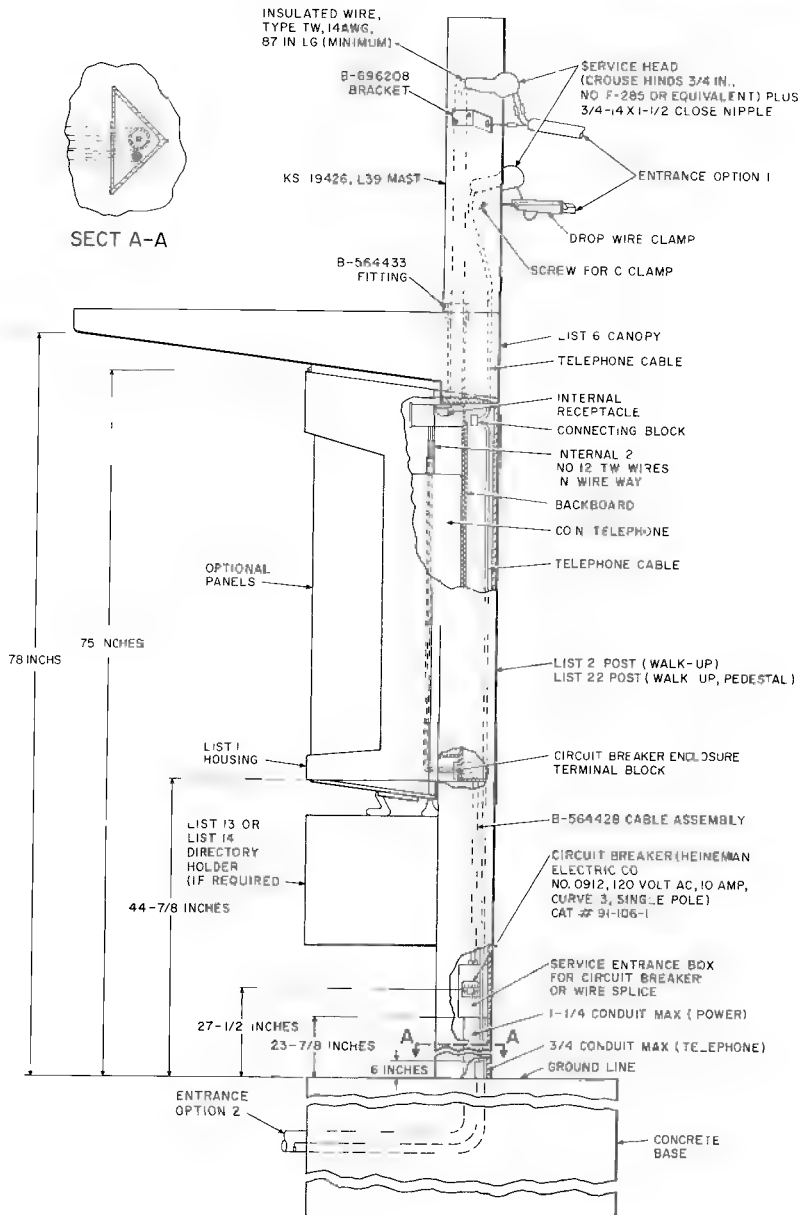

Fig. 17—Installation Requirements for Post or Pedestal Mounting, Walk-Up Location
3.40 Embed KS-19426, List 2 post(s), for walk-up mountings, or KS-19426, List 3 post(s), for drive-up mountings, in the center of the base to concur with the dimensions shown in Fig. 17 or 18.
- 3.57** The wiring for a post mounting may enter from the ground or from a mast (Fig. 17, or 18).